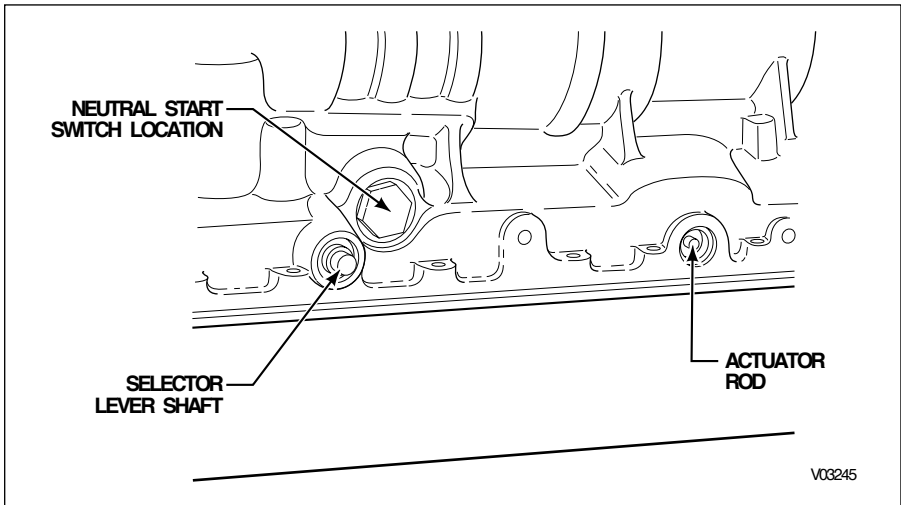

Figure 3-5. Provision for Neutral Start Switch
- Install the Neutral Start Switch (if so equipped) into the tapped opening above the selector shaft (Figure 3-5). The switch must include an aluminum washer (gasket) approximately 0.090 inch (2.29 mm) thick. The washer on some switches has indentations on one side. Install the washer onto the switch with the indentations facing away from the switch. Make sure all mating surfaces are clean and free of contamination. Apply a light coat of Loctite® pipe sealant with Teflon®, or equivalent, to the threads of the switch. Install the switch assembly and tighten it to 50–60 lb ft (68–81 N·m) using installation wrench J 33410.